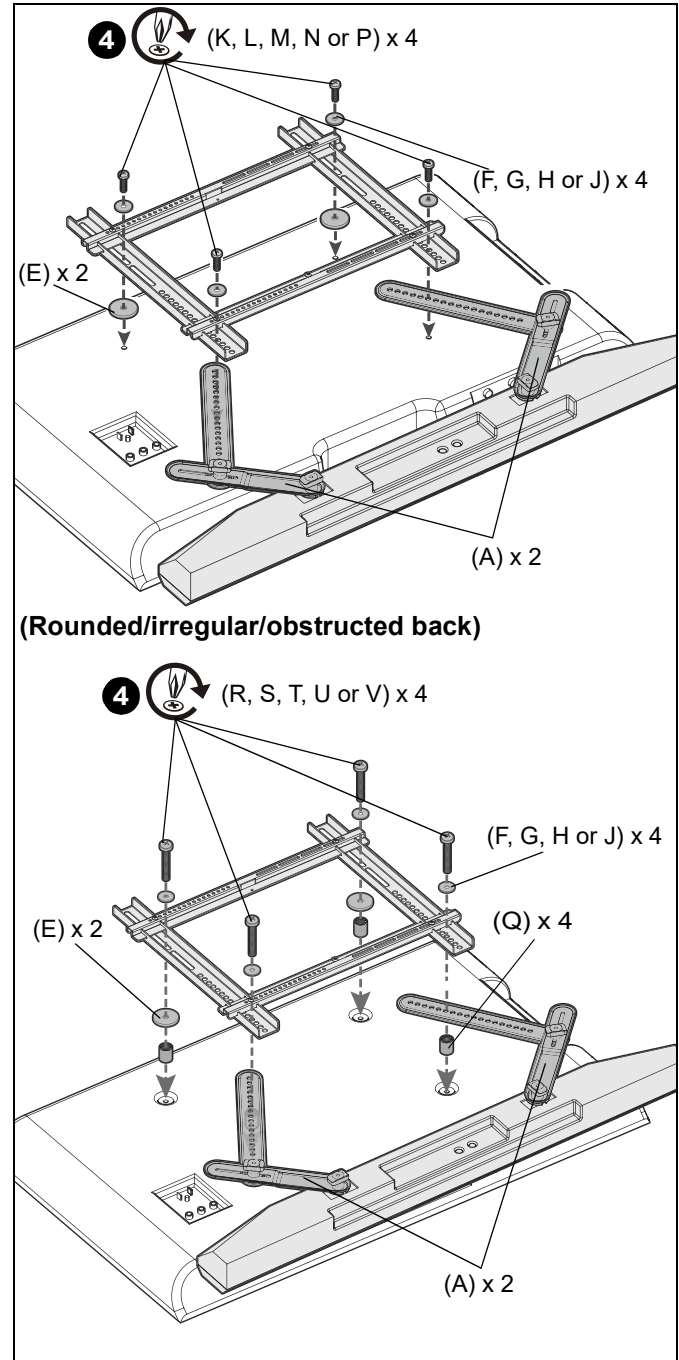

Figure 8
4. Use four selected screws (K, L, M, N, P, R, S, T, U or V), four washers (F, G, H or J), two mount spacers (E) and TV spacers (Q) (if necessary) to secure mounting system and soundbar brackets (A) to back of display. (See Figure 8)
**NOTE:** Mounting system shown in Figure 8 is an example. Exact mounting configuration will vary based on mounting system.